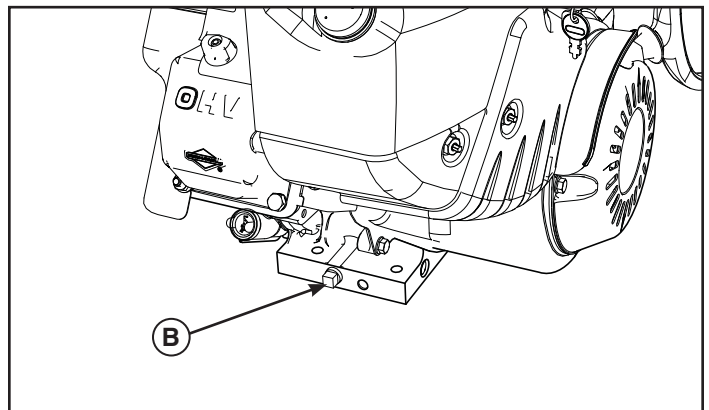

Figure 12
1. With engine off but still warm, disconnect the spark plug wire (A, Figure 12) and keep it away from the spark plug.